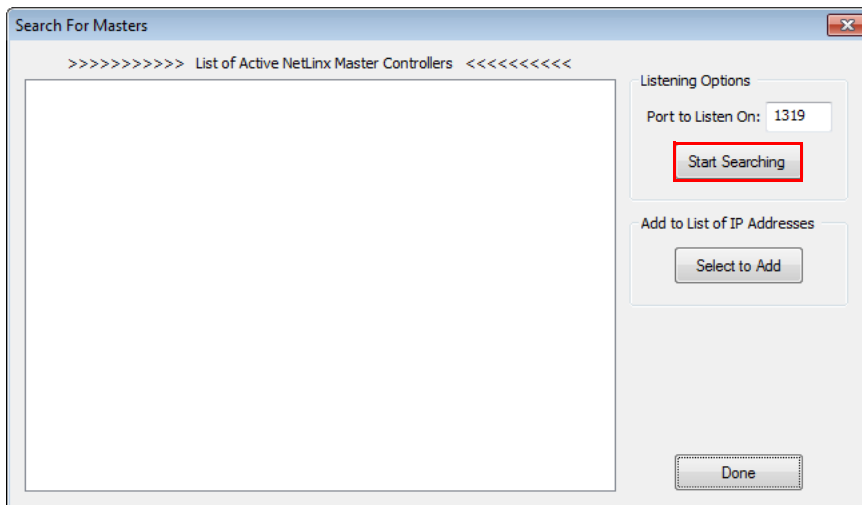

FIG. 29 Search for Masters dialog
3. Click **Search For Masters** to search the network for online Masters in the Search for Masters dialog (FIG. 29).